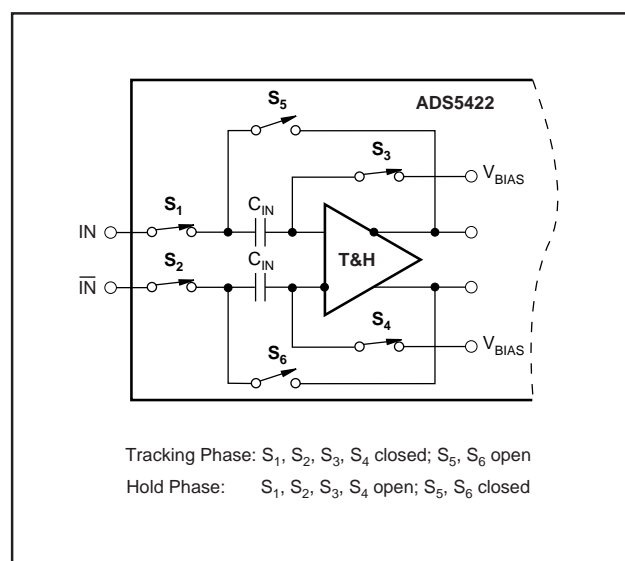
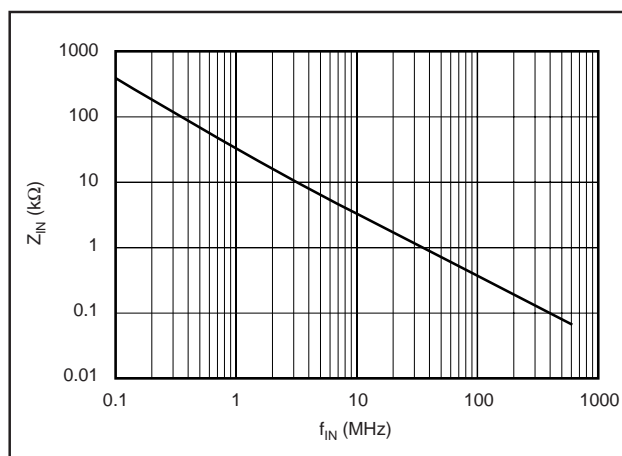

FIGURE 1. Simplified Circuit of Input Track-and-Hold Amplifier.
FIGURE 2. Differential Input Impedance vs Input Frequency.
The analog input of the ADS5422 consists of a differential track-and-hold circuit, as shown in Figure 1. The differential topology produces a high level of AC performance at high sampling rates. It also results in a very high usable input bandwidth—especially important for Intermediate Frequency (IF) or undersampling applications. Both inputs (IN , \overline{IN}) require external biasing up to a common-mode voltage that is typically at the mid-supply level ($+V_S/2$). This is because the on-resistance of the CMOS switches is lowest at this voltage, minimizing the effects of the signal-dependent,
The input of the ADS5422 is capacitive, and the driving source needs to provide the slew current to charge or discharge the input sampling capacitor while the track-and-hold amplifier is in track mode (see Figure 1). This effectively results in a dynamic input impedance that is a function of the sampling frequency. Figure 2 depicts the differential input impedance of the ADS5422 as a function of the input frequency.